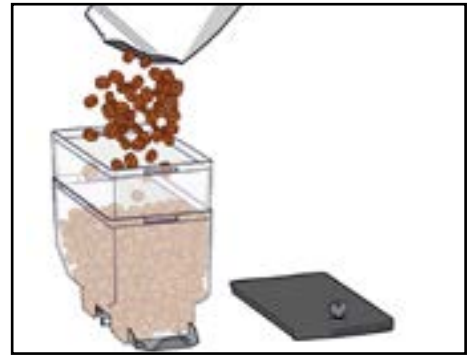

Figure 63.
5. Fill the canister with beans (see Figure 63).